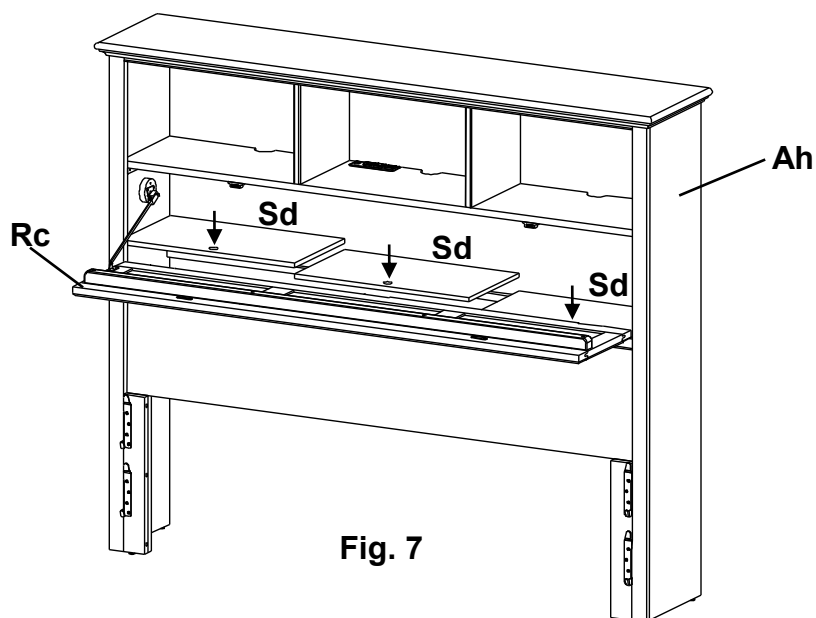

Fig. 7
- Unwrap the False Bottoms (Sd) and place them on top of the rails in the Headboard Assembly (Ah). Make sure the finger holes face forward as shown in Figure 7. After you have placed your electronics inside the cubbies, use the Wire Clips (ZS) on the underside of the cubbies to secure the wires. Close the door tightly making sure the magnetic catches and plates securely touch.